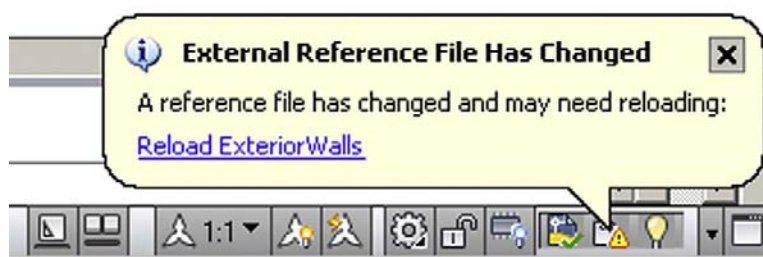

FIGURE 17.9
- A new toolbar appears, called *Refedit* (shown in Figure 17.9).